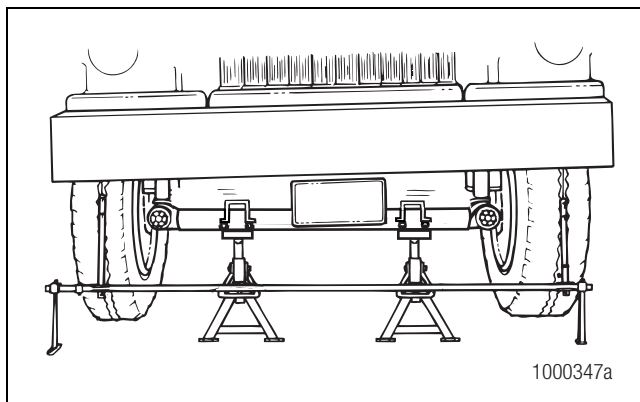

Figure 7.13
7. Repeat Step 6 for the front of the tires. Figure 7.13.